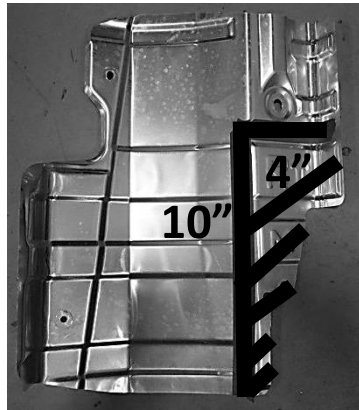

Figure 3
- 1. Remove Appearance Panels** – Using a flat head screw driver remove (7) push pins each side (bottom (3), wheel well (2), exhaust side (2)) to remove the appearance panels.
- 2. Lower Muffler** – Using the exhaust removal pliers, lower muffler by removing the (4) rearmost rubber hangers, (2) hangers per side and (1) in the middle of the car. **Note:** A spray of lubricant on rubber hangers makes them slide off metal pins more easily. **Note:** Support the exhaust before removing rubber hangers.
- 3. Remove and Trim Heat Shield** - Using a 10mm socket remove (4) nuts per side. Using tin snips trim the heat shield (each one), 10" x 4" as seen in figure 3 exposing the frame and attachment holes. **Note:** Do not raise the heat shield into place until the fasteners have been installed into the frame.
3. Remove and Trim Heat Shield - Using a 10mm socket remove (4) nuts per side. Using tin snips trim the heat shield (each one), 10" x 4" as seen in figure 3 exposing the frame and attachment holes. **Note:** Do not raise the heat shield into place until the fasteners have been installed into the frame.